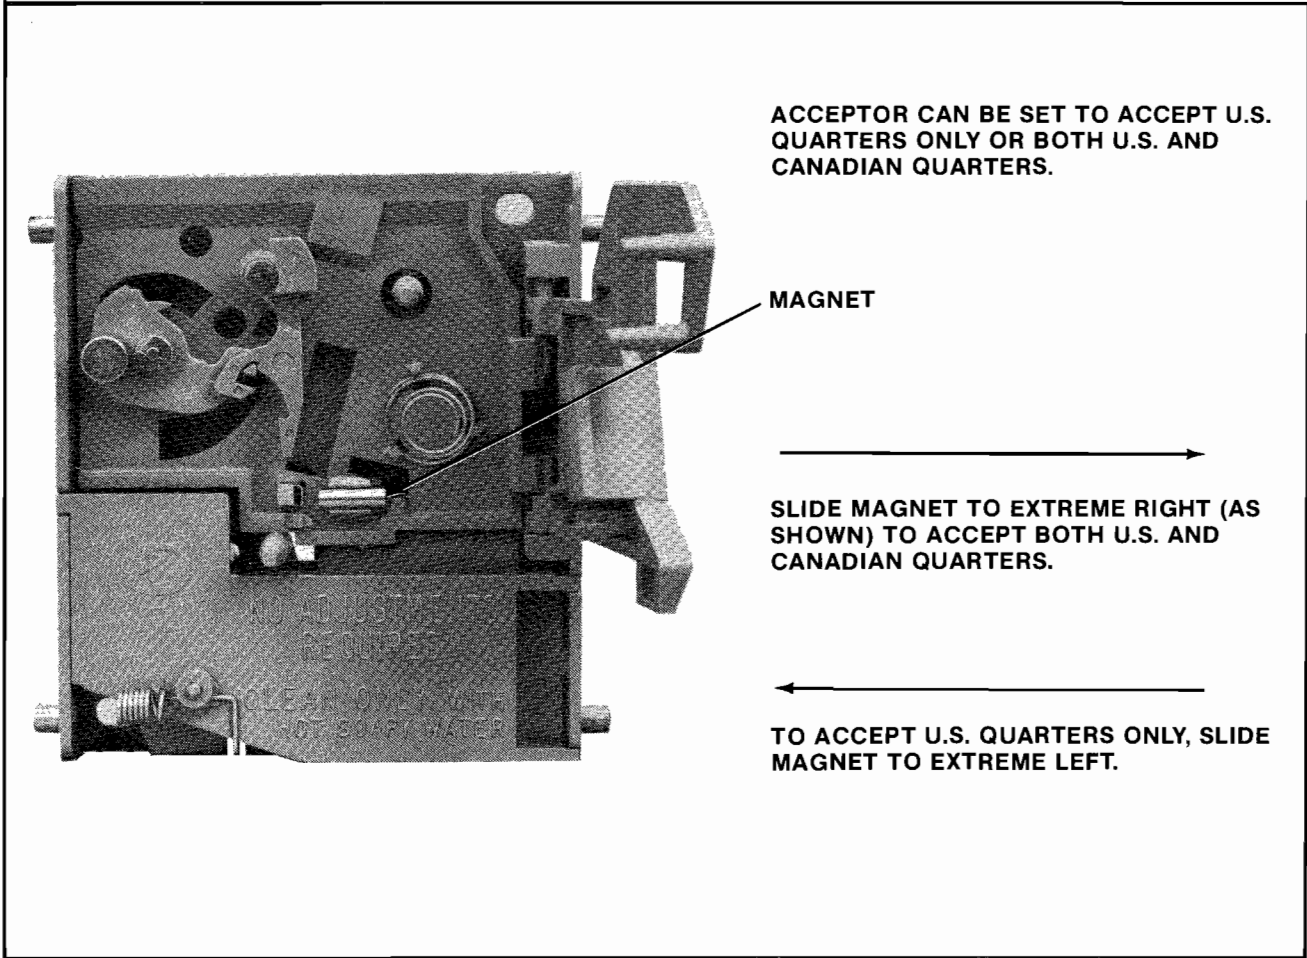

Figure 4-5 Changing the Plastic Coin Acceptor to Accept American or Canadian Quarters
6. Reinstall the coin acceptor to the coin door. See Figure 4-5.